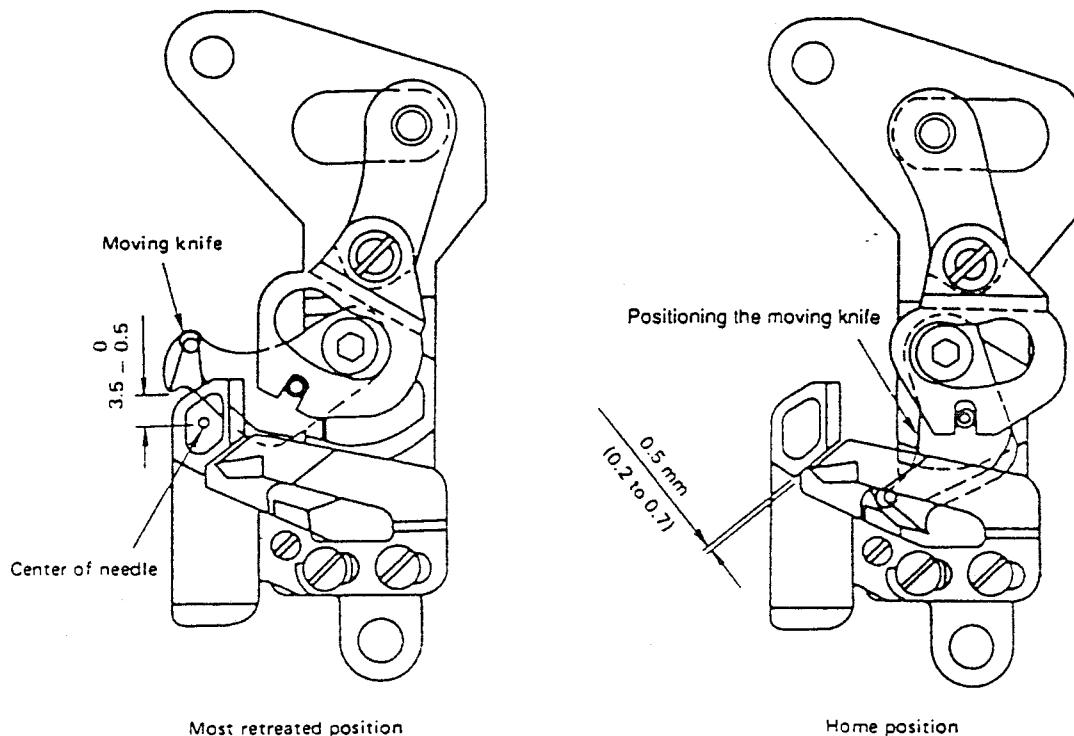

Fig. 14
- ② Move the link driving magnet pin to the right or left to make the V groove (Fig. 14) meet the periphery of the moving knife, referring to the home position shown in Fig. 14.
- ③ Retighten the lock nut of the link driving magnet pin when the proper position of the moving knife has been obtained. As the link driving magnet pin is moved to the right, the retreat of the moving knife increases. As it is moved to the left, the retreat of the moving knife decreases.
- ④ Move the knife driving shaft ② (Fig. 15) to make the periphery of the moving knife meet the V groove of the mounting base (Fig. 14), and fix knife driving shaft stopper ④ (Fig. 15) by tightening two screws ⑤ (Fig. 15).